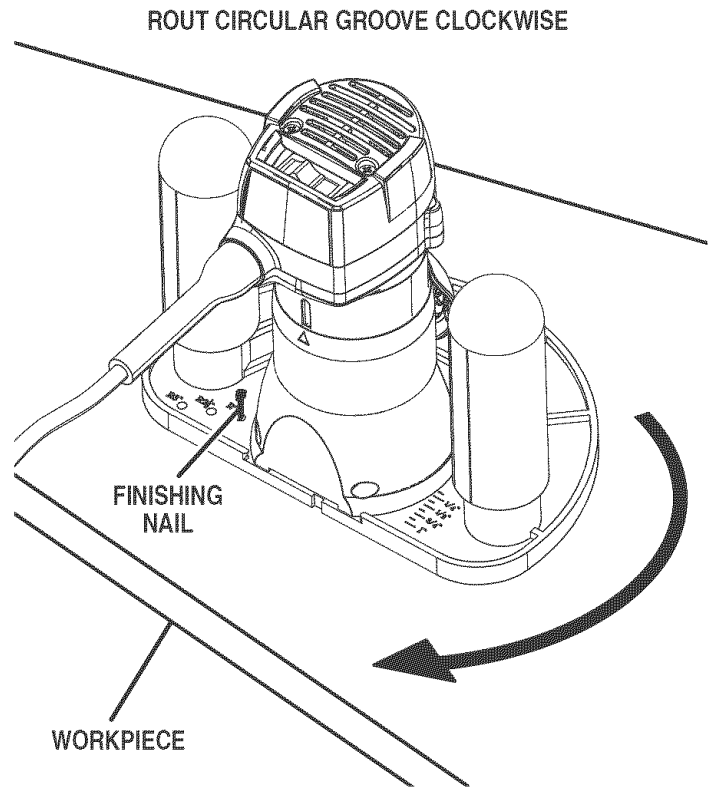

Fig. 12
See Figure 12.
- Rout a circular groove in a clockwise direction only. See the arrow in figure 12.